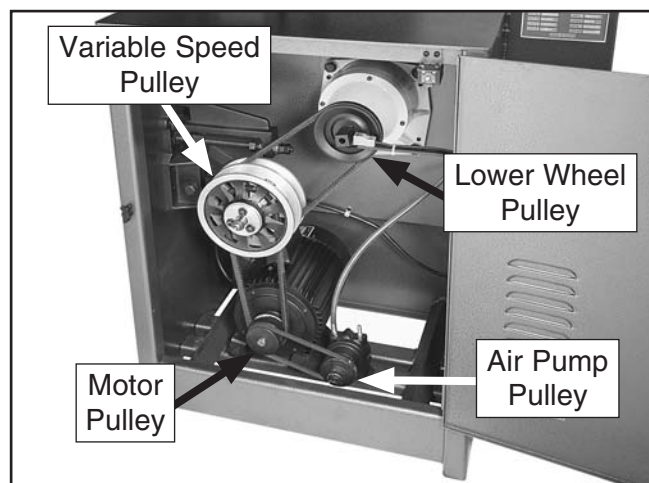

Figure 59. Drive component identification.
3. Roll the V-belt off the air pump pulley, then remove it from the motor pulley (see **Figure 59**).